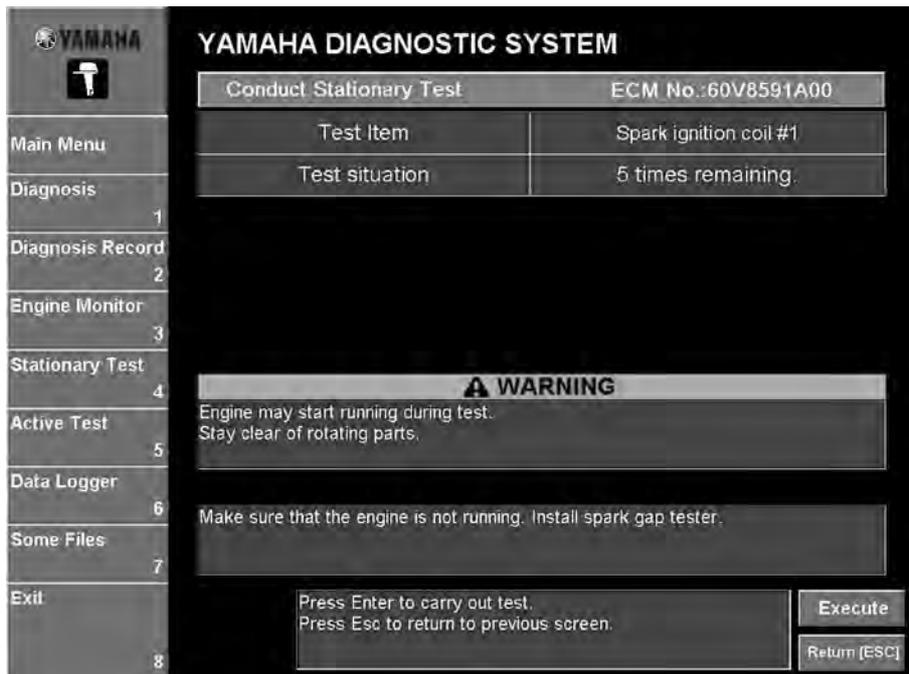

Fig. 67
- Click the **Execute** button or press the Enter key on your keyboard. (Fig. 67)